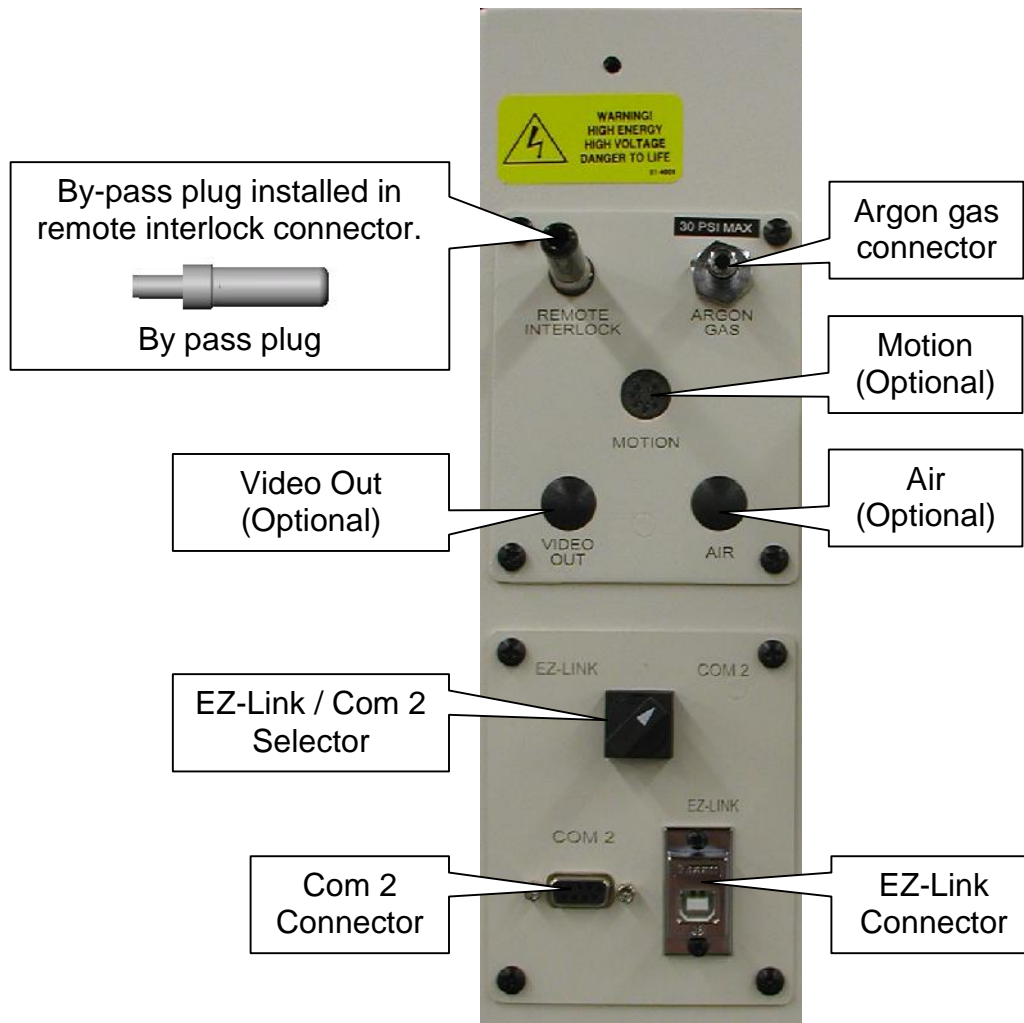

Figure 2
4. Remove external fuses and check or replace as needed (**Figure 2**)